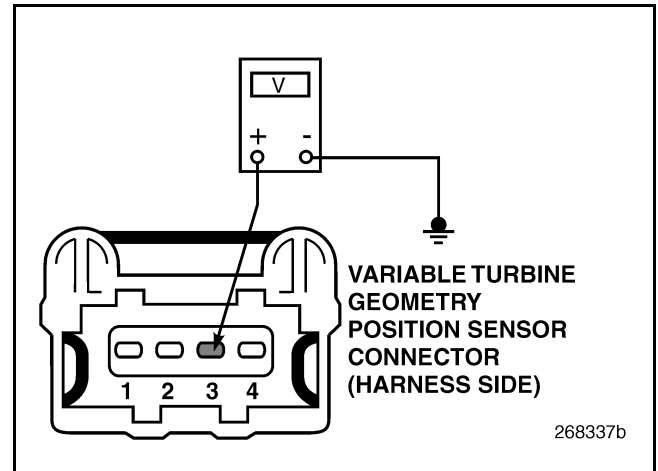

Figure 499
4. Measure the voltage between the VTG Position Sensor harness connector pin 3 (reference voltage line) and a good ground (see Figure 499).